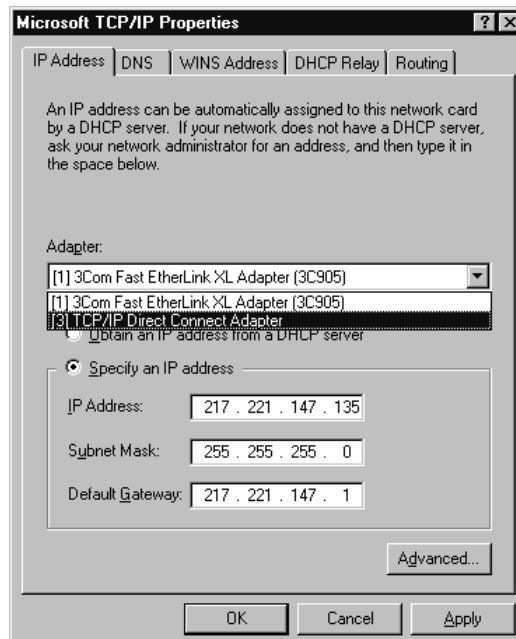

Figure 5-20. Select TCP/IP Direct Connect
11. Use your mouse to select TCP/IP Direct Connect from the list of Adapters bound to TCP/IP (Figure 5-20).